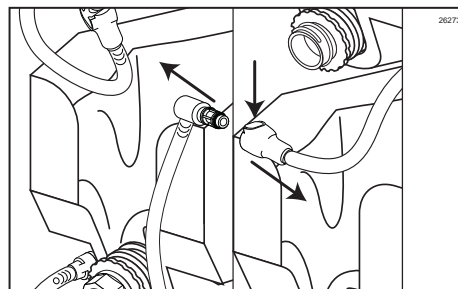

Figure 71
22. Once the Pump Flush process has completed, disconnect the Pump Flush Adapter from the Syrup Bag Connector. (See Figure 71.)